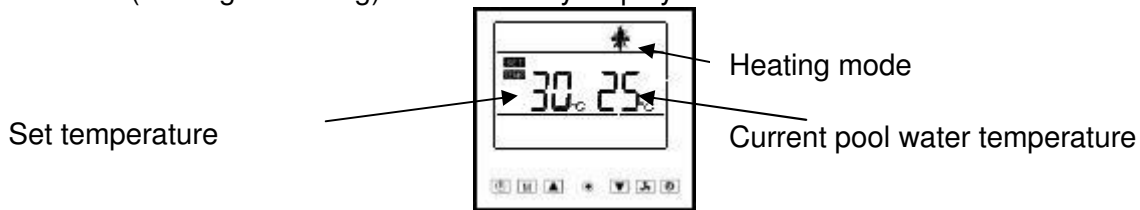
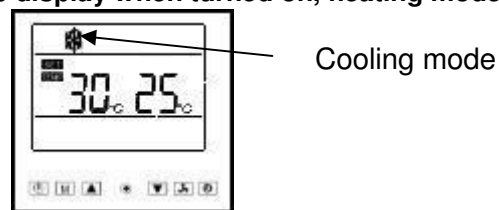

Figure 13: Heat pump display when turned on, heating mode.
Figure 14: Heat pump display when turned on, cooling mode.
To start the heat pump, press **[ON]**. The heat pump starts within 3 minutes. The last selected operating mode (heating or cooling²⁰), see Figure 13, Figure 14 and Paragraph 5.2.13.8, the last temperature set and the current pool water temperature (heating or cooling) is immediately displayed.
- Heating,  is displayed, see Figure 13.
- Cooling,  is displayed, see Figure 14.
The temperature read by each sensor can be displayed by pressing  (for model BP-xxWS-B (xx=35, 50), press ) and hold down for 3 seconds with the pump is running, see Paragraph 5.2.4. To display temperatures read by the various sensors, press  (for model BP-xxWS-B (xx=35, 50), press ). The temperature read by the sensor is displayed for 10 seconds, if no other key is pressed, or press  to return usual information to the display, see Figure 13 and Figure 14.